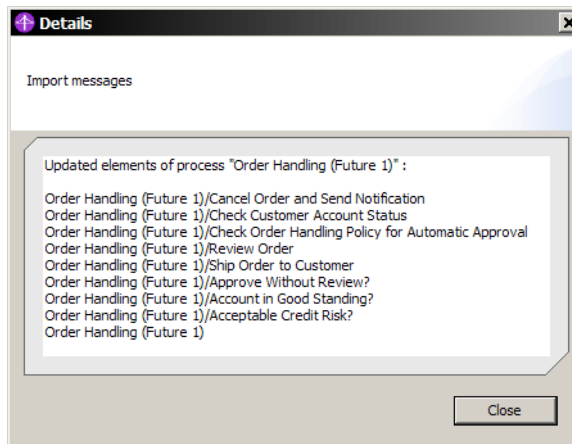

Figure 14-6 Modeler: Importing Monitor results (4)
- ▶ Processing starts and displays a dialog where you can see the details (Figure 14-6).